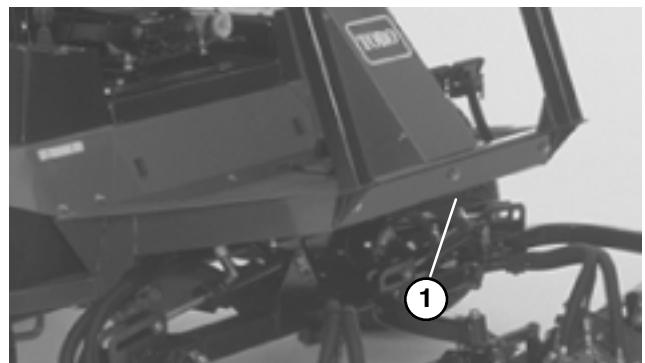

**Figure 35**
## TOWING TRACTION UNIT (Fig. 35 & 36)
1. Loosen and remove capscrews securing the drive shaft to the engine drive coupler. Loosen capscrews clamping drive shaft to transmission (Fig. 35). Remove drive shaft.
5. When towing is completed, reinstall driveshaft as shown in figure 35. The splines are designed to allow assembly only when the two halves of the shaft are properly oriented.